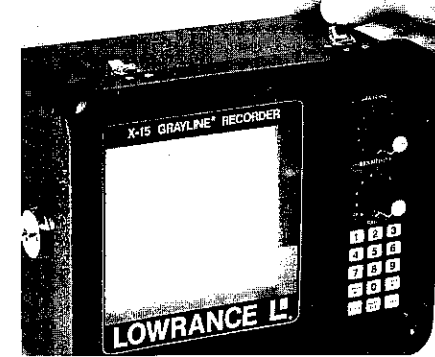

Figure 35
11. Close the front of the case. Latch both catches on the top of the case. (See Figure 35.)